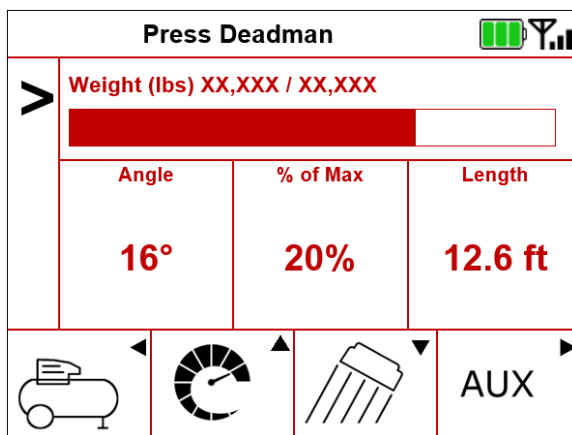

Figure 2-58.
2.11.19.1 Main Screen (Figure 2-58).